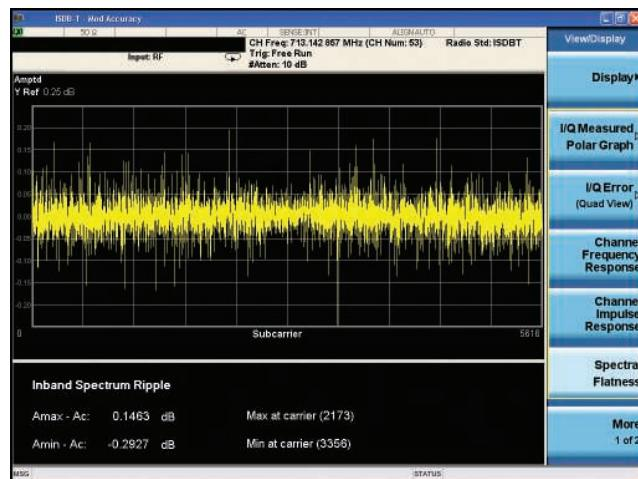

Figure 15. Modulation accuracy measurement with spectrum flatness view
View the spectrum flatness (Figure 15)	[View/Display] {Spectrum Flatness}
- **Spectrum flatness** view (Figure 15): This two-window view can be used to verify whether the spectrum flatness meets the transmitter or exciter device standard with a PASS/FAIL indicator and shows: